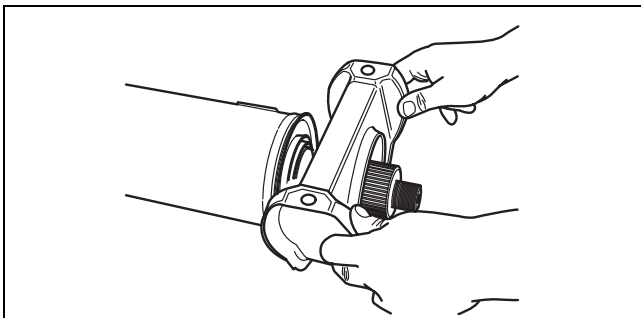

Figure 9.14
2. Carefully align the new center bearing assembly with the machined surface of the coupling shaft. Use your hands to push the center bearing onto the coupling shaft. Figure 9.14.